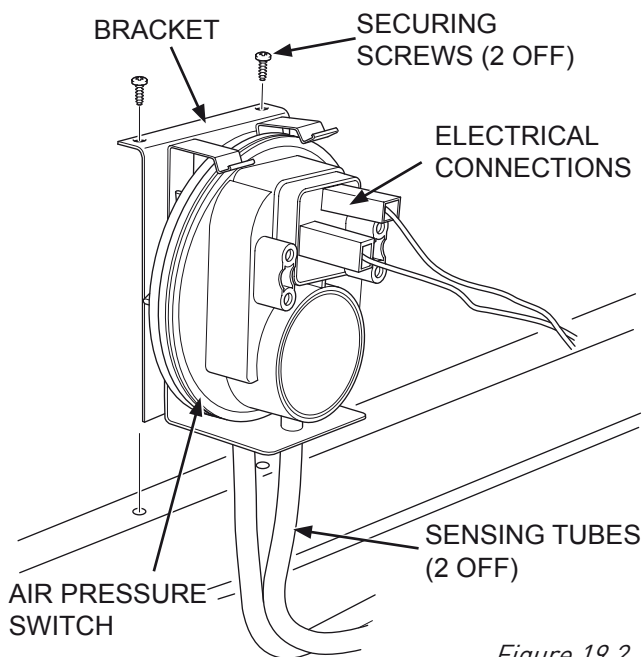

Figure 19.2
- The air pressure switch is located on the top of the expansion vessel (Figure 19.2).